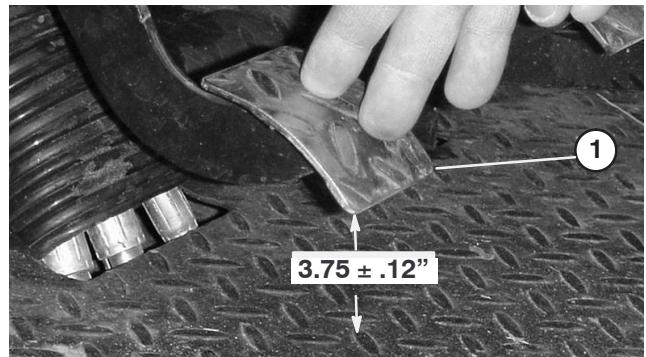

Figure 63
3. Adjust the jam nuts/or ball joint until the back rear edge of the clutch pedal is  $3.75" \pm .12"$  from the top of the floor plate diamond pattern, when an 4 lb. force is applied to the pedal (Fig. 63).